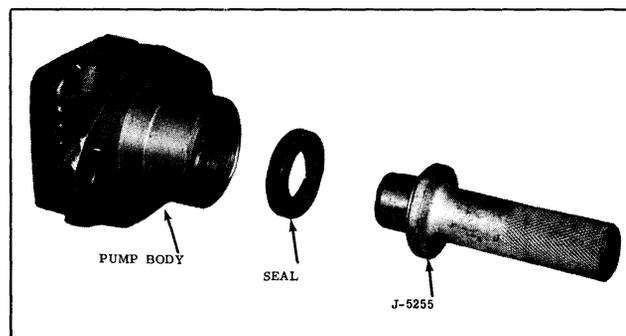

Fig. 5-80 Seal and Driving Tool
4. Place the seal over Tool J-5255 with lip of seal facing out. (See Fig. 5-80)